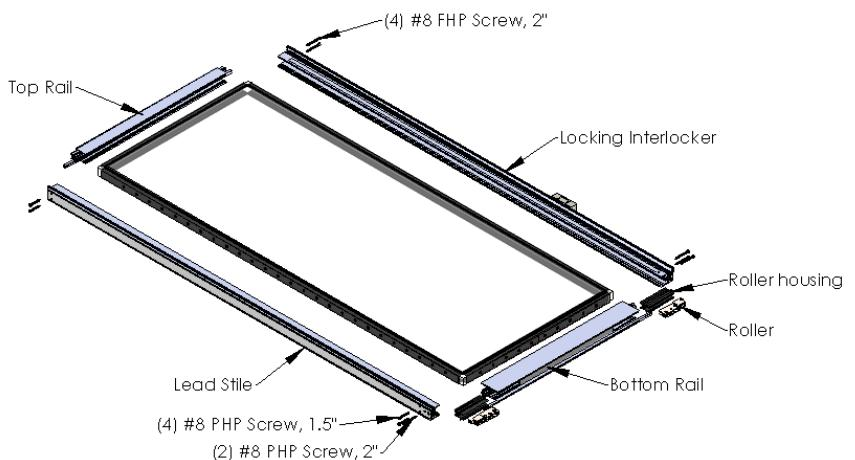

Figure 7:
7. Secure the stiles to the top and bottom rail with (4) #8 x 2" flat head screws for the interlocker and (4) #8 x 1-1/2" pan head screws for lead stile (Figures 7).